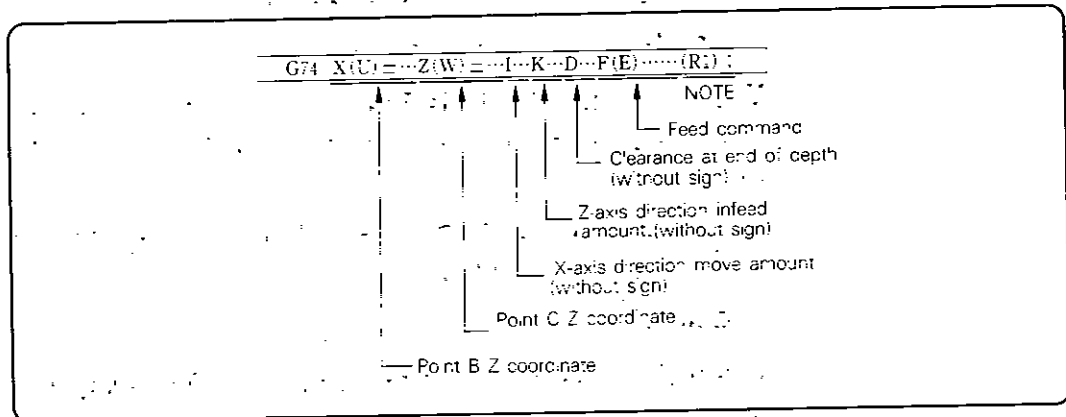
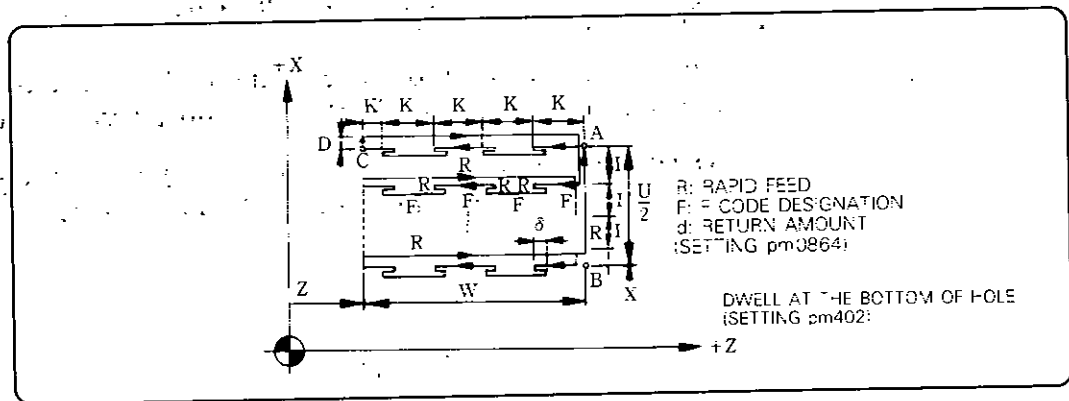

Fig. 2.13.35 Cycle Command
Fig. 2.13.36 Cycle Execution
- (1) The Fig. 2.13.35 command execution a cycle results in the function as shown in Fig. 2.13.36.